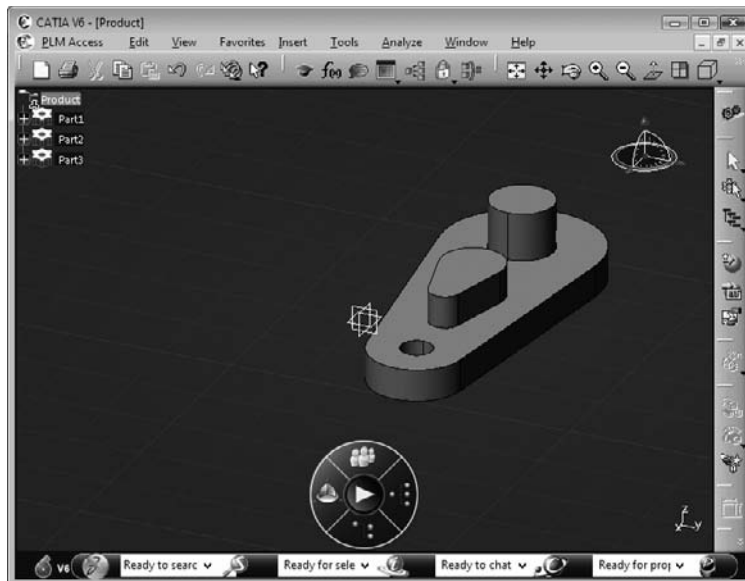

FIGURE 4.20
11. Repeat steps 5 to 9 to add the third component, **Part3**, to the **Product** assembly, as shown in **Figure 4.20**: